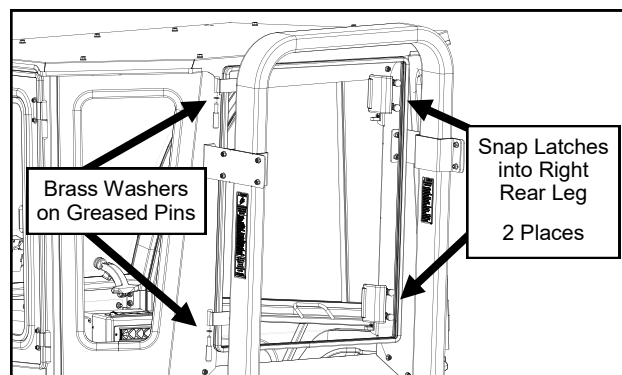

Fig. 16.1 (Hang Rear Window)
- 16.1 Grease the hinge pins found on the left side rear leg and slide on greased brass washers (one washer per pin). See Figure 16.1.